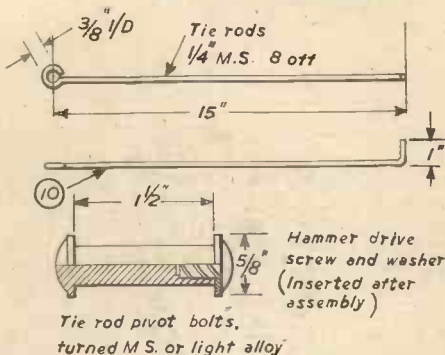

Fig. 5.—Details of the tie rods and pivot bolts.
through holes in the leg. Thread on the second tie-rod, and hammer a drive screw in the open end of the bolt, after placing a washer under the head (Fig. 5). A rack (12) composed of eight 18 in. lengths of $\frac{3}{16}$ in. mild steel rod enclosed in a frame member of